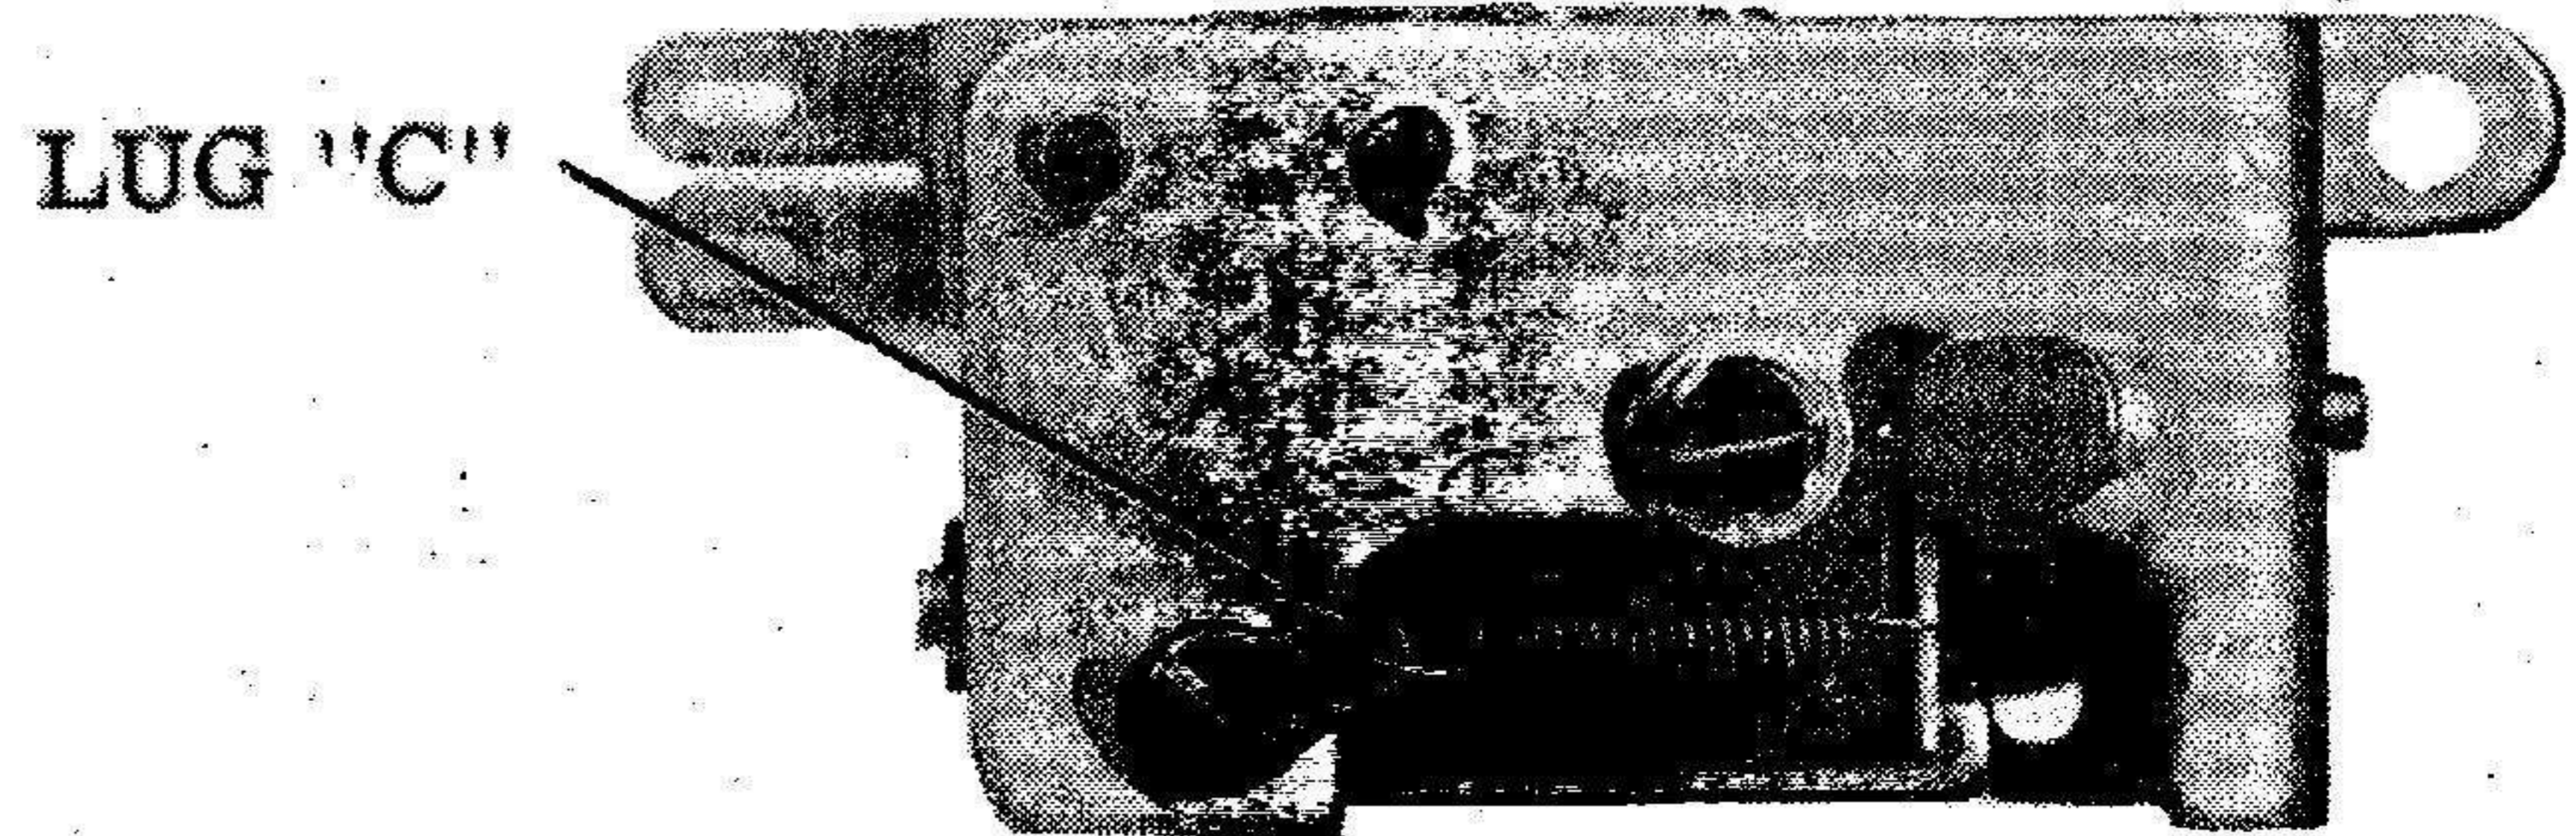

Figure 13. Overload Relay Adjustment
- If the relay kicks out below 3.0 amps AC, increase the tension on the spring by turning lug "C", figure 13. Recheck and readjust spring tension until relay kicks out within proper limits.